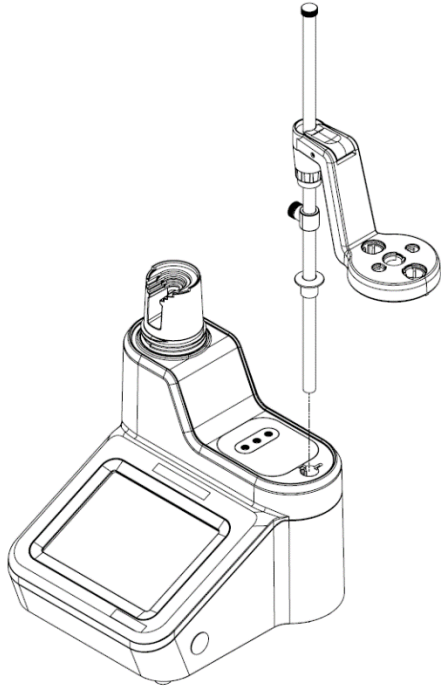

Figure 2. Electrode Holder Shaft Attachment
1. Attach the Electrode Holder Shaft by inserting the shaft into the hole on the top of the titrator and aligning the slots on the shaft with the tracks on the holder. Refer to **Figure 2**.